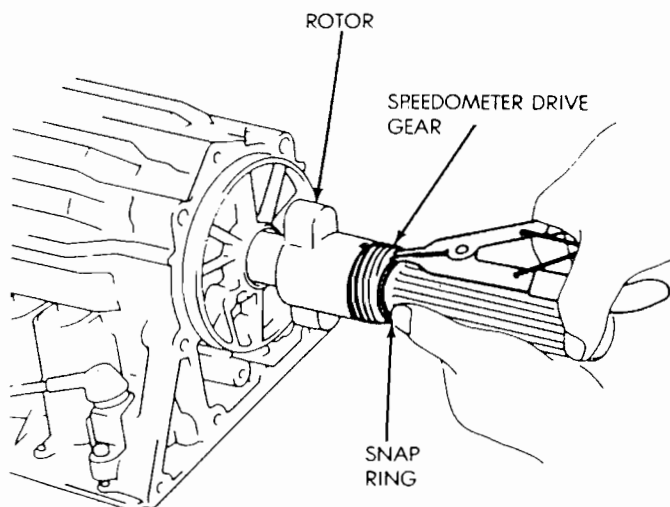

Fig. 42 Removing/Installation Speedometer Drive Gear
- (1) Raise vehicle.
- (2) Remove components necessary to gain access to rotor and drive gear (e.g. propeller shaft, transfer case, crossmember, shift linkage).
- (3) Disconnect speedometer cable and/or speed sensor.
- (4) Remove extension or adaptor housing.
- (5) Remove speedometer drive gear snap ring (Fig. 42).
- (6) Remove the speedometer drive gear and spacer (if equipped).
- (1) Install rotor, spacer (if equipped) and drive gear on output shaft. Then install drive gear snap ring (Fig. 42).
- (2) Apply bead of Three-Bond TB 1281 or equivalent RTV sealer, to transmission case sealing surface and install extension/adaptor housing on case.
- (3) Tighten extension/adaptor housing bolts to 34 N·m (25 ft-lbs) torque.
- (4) Install components removed to gain access to rotor and drive gear.